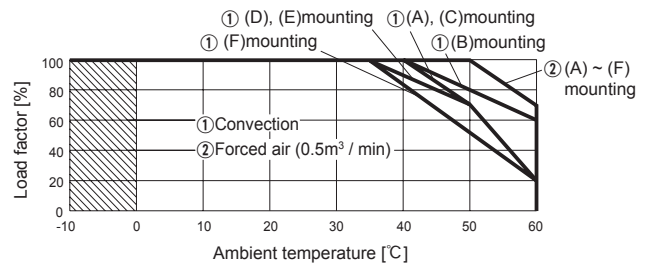
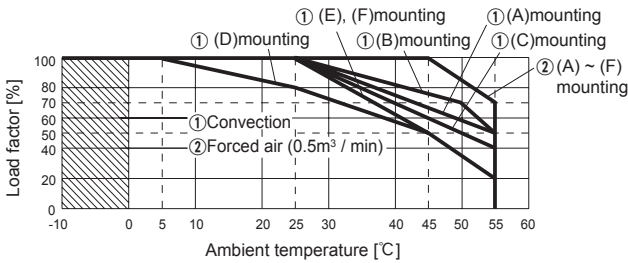

Fig.3.1 Ambient temperature derating curve
Fig.3.5 Ambient temperature derating curve
- ① Continuous overload
- ② The input voltage is continuous less than AC85V or exceed AC264V.
- ③ More than rated output voltage is applied to output terminal of power supply.
- ④ When the current and the temperature which deviates from the derating characteristic shown in Fig.3.1 to Fig.3.5.